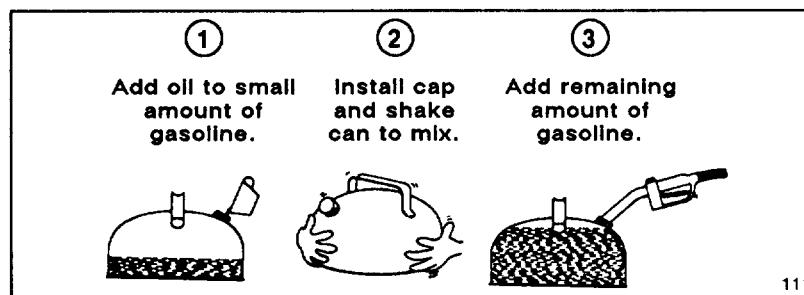

Figure 8
2. **Mixing Gasoline and Oil (Fig. 8)** – Pour half a gallon of gasoline into an approved gasoline container and add correct amount of two-cycle oil. Reinstall cap on gasoline container and shake the container to mix oil and gas thoroughly. Remove cap and add remaining amount of gasoline.